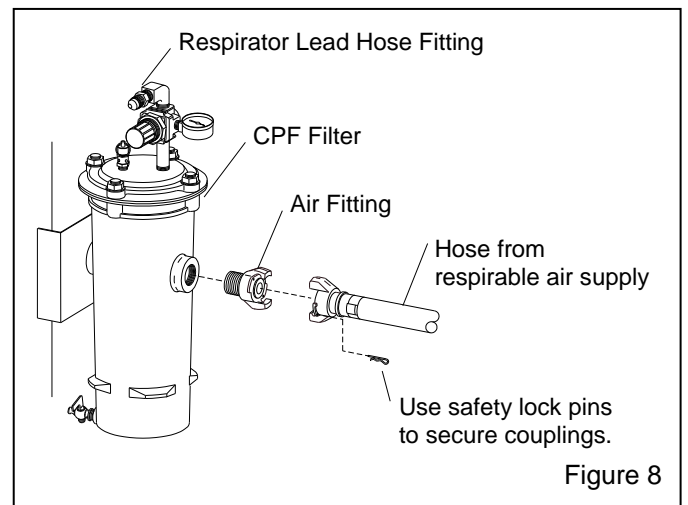

Figure 8
2.6.2 Apply thread sealant to the male threads of an air fitting that is compatible with the air supply hose fitting, as noted in Section 2.6.3, and install it onto the 1-NPT port located at the side of the filter, as shown in Figure 8. Note that the style of connection shown is for reference only.
2.6.3 Refer to the CPF air filter owner's manual and attach an air supply hose from an air source that meets OSHA requirements for respirable air, to the fitting installed on the CPF filter inlet, as shown in Figure 8 and noted in the CPF air filter owner's manual.